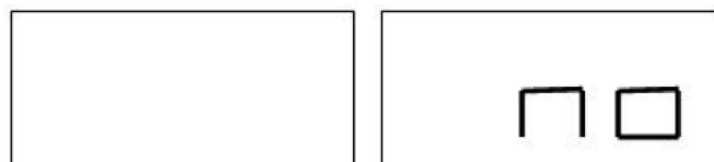

Fig. F6.2 Hidden Weight Programme not possible or chosen position not allowed
6. If the angle is greater than  $120^\circ$ , the machine will display the message shown in figure F6.2 for one second and will emit a triple beep indicating that another point must be chosen. If the angle instead is less than  $120^\circ$ , the machine will display the message shown in Fig. F6.4, allowing you to continue with the next step.
8. If the chosen angle is greater than  $120^\circ$ , the machine will display Fig. F6.2 for one second and will emit a triple beep meaning to repeat the procedure in step 7 again. If the angle instead is less than  $120^\circ$ , the machine will immediately display the value of the external weight W2.